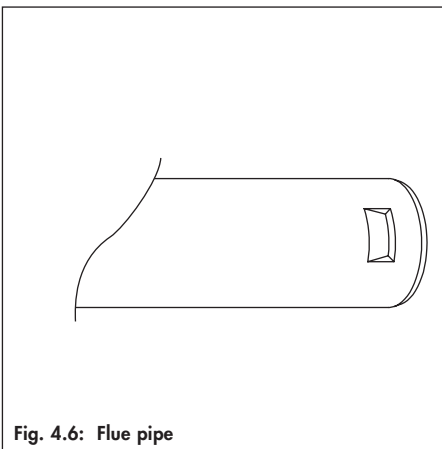

Fig. 4.6: Flue pipe
- ☞ Please note: The catch on the top of the variable terminal must lock firmly into the notch in the flue duct (fig. 4.6).